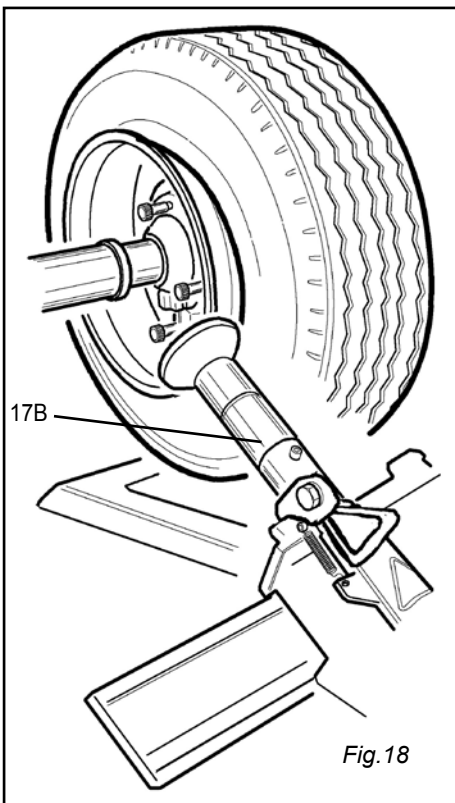

Fig. 18
- 7) Repeat the operations (3), (4) and (5) above until the second bead is completely detached (fig.18)